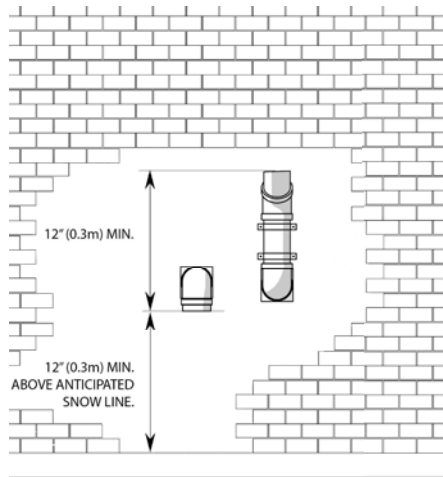

Figure 14: Sidewall detail.
- The elevation of both pipes can be raised in "periscope style" after passing through the wall, then configured as in *Figure 14 and 15*, to gain required clearance.